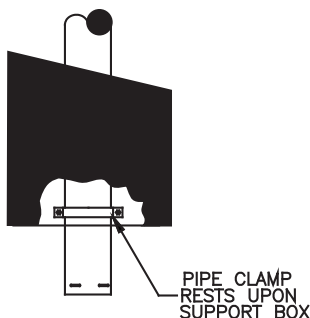

Figure 33
8. Place the Support Clamp, included with Support Box, loosely around Pipe Sections running through hole in Support Box (Figure 33).
10. After all PelletVent Pro Pipe Sections and components are assembled and connected down to the appliance seal and secure the Appliance Adapter to stove. Using a level, make slight adjustments in the position of the appliance until the pipe is truly vertical. Tighten the bolts in the Support Clamp (Figure 33). Note that the overall length of the PelletVent Pro system can be no longer than 42 feet.